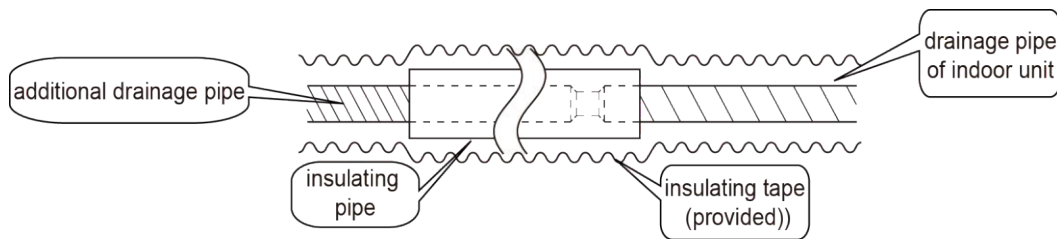

Fig 4.3.1
- (1) The drain line should be short and the downward slant should be at least 1%~2% in order to drain condensation properly.
- (2) The diameter of drain line should be greater than or equal to the diameter of drain connection.
- (3) Install drain line according to the following fig. and secure insulation to the drain line (Fig 4.3.1). Improper installation may lead to water leakage and resulting damage.
- (4) Hard PVC pipe may be used as the drain line. When connecting, insert the end of PVC pipe into the drain hole and secure it. Do not use glue (PVC cement).
- (5) When several unit's drain lines are connected, position the drain line about 100mm(4in.) lower than the drainage port of each unit. Use heavier duty drain line if needed.